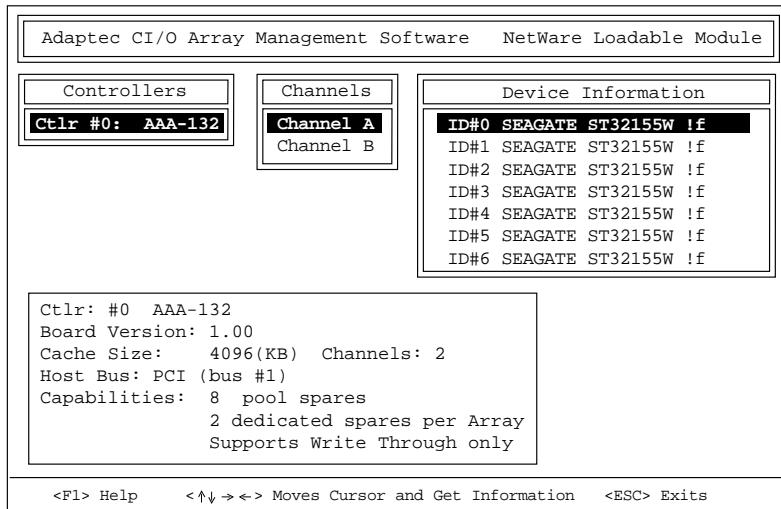

Figure 4-4. Controller and Channel Information
- 1 Select **Display Device Information** from the Main Menu. A screen similar to Figure 4-4 appears.